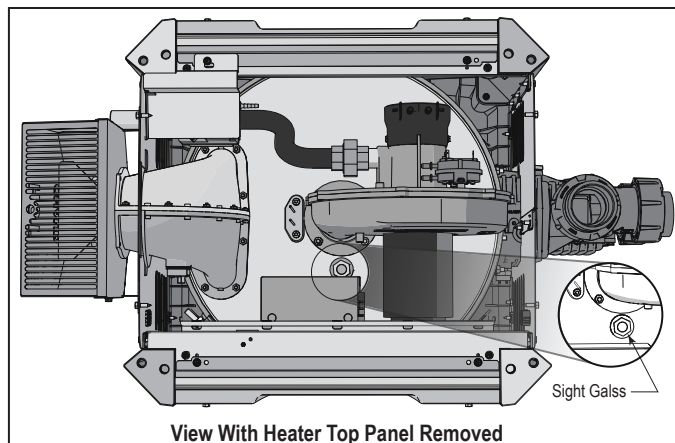

Figure 20. Remove Heater Top to View Sight Glass
- Visually check the main burner flame. Remove the top of the heater to inspect the sight glass. See *Figure 20*